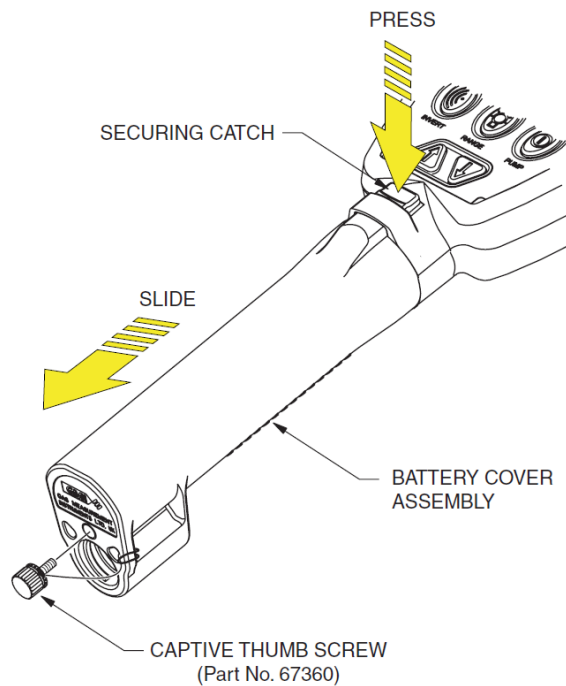

Figure 31: Battery Cover Removal
3. Remove the cover in direction shown in Figure 31: Battery Cover Removal.